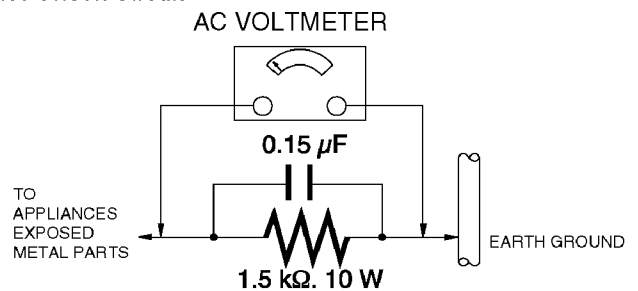

Figure. 1
1.3. Leakage Current Hot Check (See Figure 1.)
2. Connect a $1.5\text{ k}\Omega$, 10 W resistor, in parallel with a $0.15\text{ }\mu\text{F}$ capacitor, between each exposed metallic part on the set and a good earth ground, as shown in Figure 1.